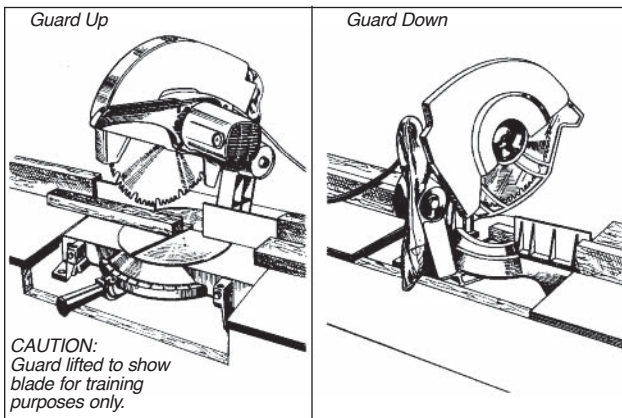

Figure 165 – Some large chop saws may require additional precautions.
- With some large chop saws (Figure 165), additional precautions are required because of the tremendous torque the saws can develop.